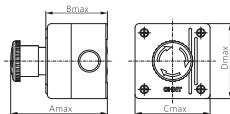

Figure 4 Overall dimensions
2) See Figure 4 and Table 2 for overall dimensions.